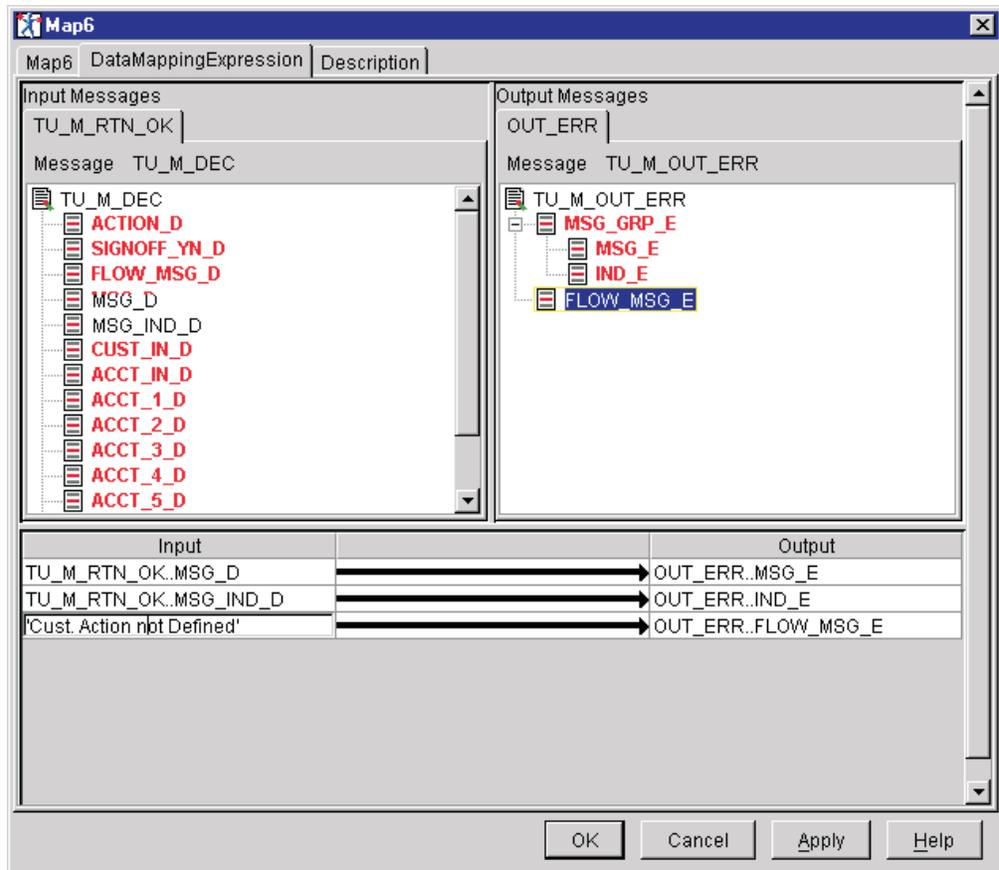

Figure 73. Mapping for Map6 node
- 6) Perform the mapping for Map6 node as listed in Table 37 and shown in Figure 73 on page 104. This map passes error response messages to the MQ Error response Output Terminal (OUT\_ERR).